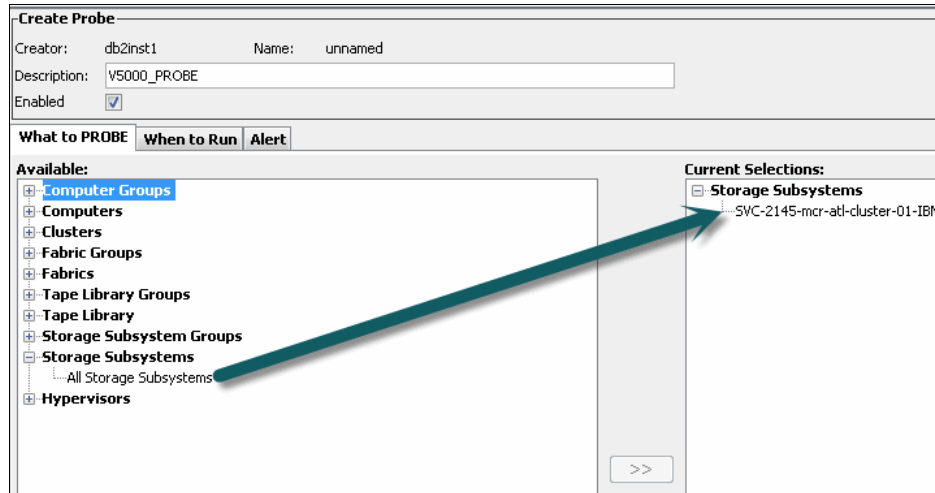

Figure 11-92 Adding IBM Storwize V3700 in probe
2. Add the IBM Storwize V3700 probe for collecting information, as shown in Figure 11-92.